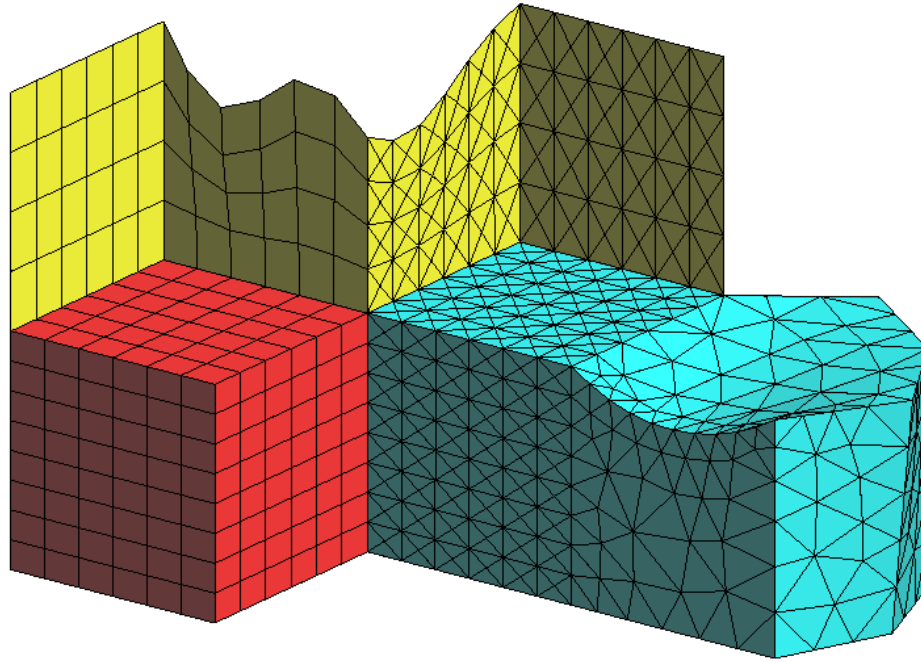
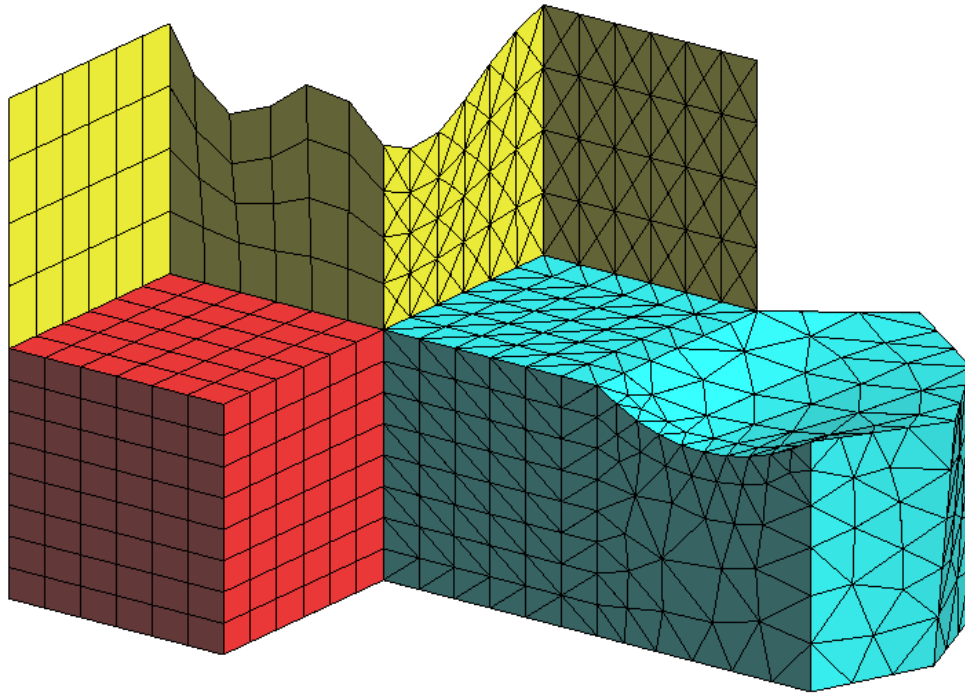

Figure 9. Structured volume mesh of hexahedra and tetrahedra.
Figure 10. Structured volume mesh of tetrahedra with the option Symmetrical structured tetrahedra not set.
- 10 . Another window comes up in which to enter the maximum element size. Leave the default value unaltered and click **OK**. The result is the mesh shown in Figure 9.
- 11 . GiD can obtain volume structured meshes made of hexahedra, tetrahedra or prisms. As can be seen in Figures 9 and 10, there are two kinds of tetrahedron structured mesh: the one shown in Figure 9 is obtained when the option **Utilities->Preferences->Meshing->Symmetrical structured->tetrahedra** is set. If this option is not set, the mesh presented in Figure 10 is produced (with fewer nodes than if using the previous option; also, it is not topologically symmetrical).